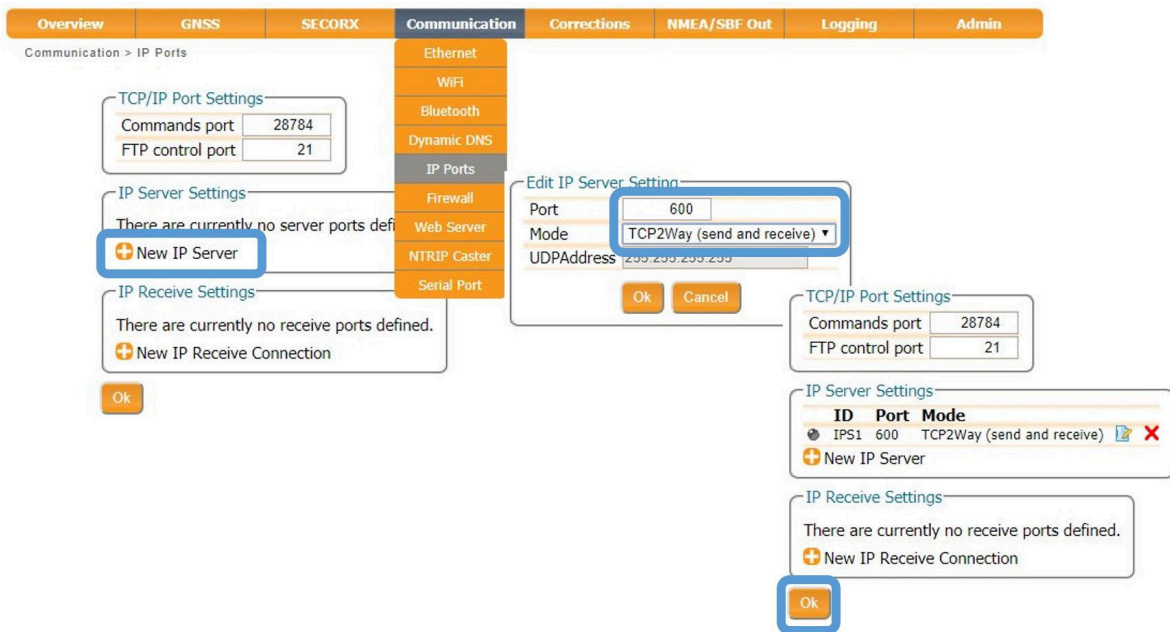

Figure 5-8: Select and configure an IP Server port on which to output differential corrections
Setup an IPS connection over which the differential corrections can be streamed. On the **IP Ports** page, click on **New IP Server** as shown in Figure 5-8, then insert the port number and mode of the connection. When choosing a port number avoid conflicts with other applications such as the commands port (28784), the webserver port (80), the FTP port (21) as well as the default NTRIP port (2101) and the NTP port (123).